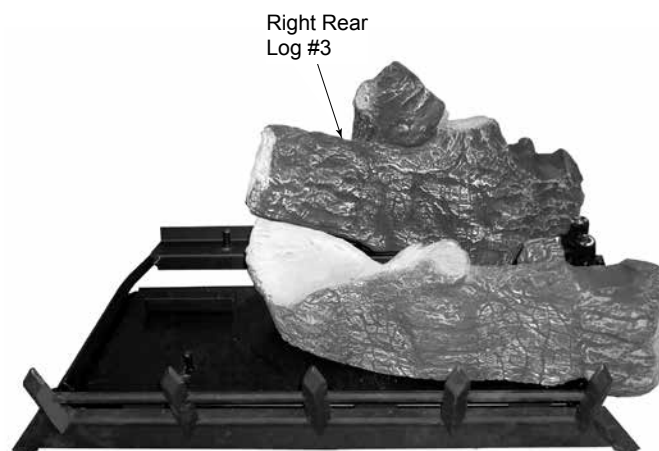

Figure 6.5 - Log #3 Placement
3. Place right rear log (#3) on pin located on rear support bracket and rest left side of log on front right log. See Figure 6.5.